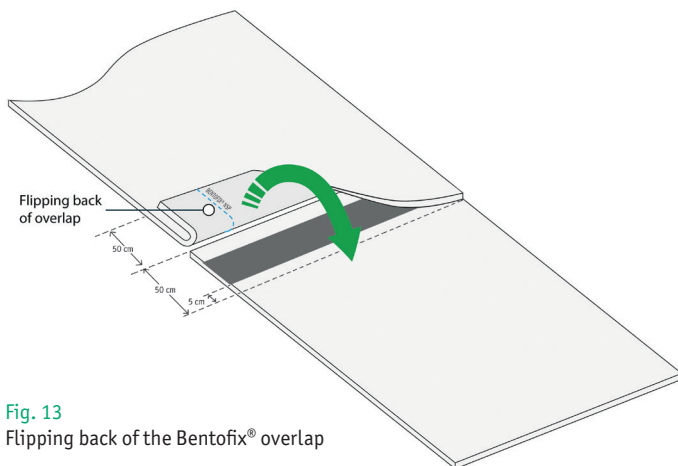

Fig. 13
17.12.3 After placing the bentonite powder or paste in the overlap zone, it is necessary to overlap the area with the neighbouring Bentofix® roll (e.g. Fig. 13). If using bentonite paste this should occur shortly after placing the bentonite paste to avoid a drying of the wet bentonite.